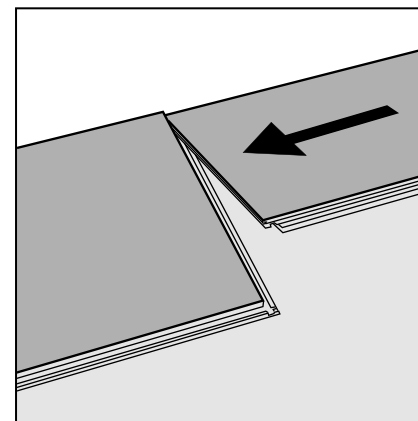

Figure 12 Second plank, first row
- > Place the short end of the second tile or plank close to the corresponding short end of the previous one. Carefully fold it down with a single action movement (Fig 12).